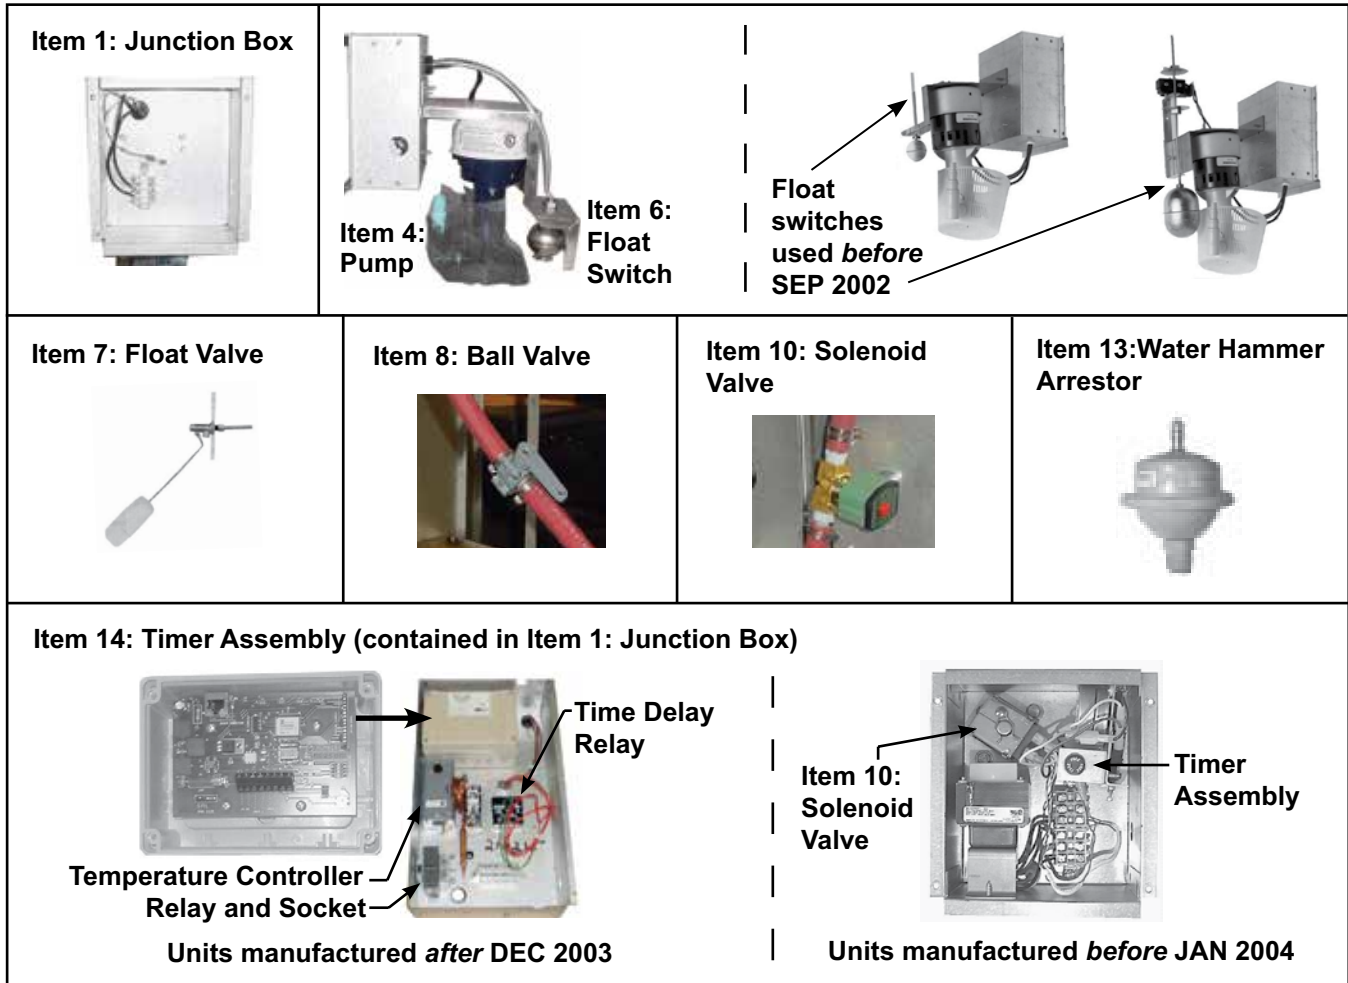

Figure 3. Control Components (Refer to Table 3)
NOTE: Depending on when the evaporative cooling module was manufactured, the junction box/pump/float switch assembly will resemble one of the configurations shown in Figure 3. The float switch used on units manufactured *before* SEP 2002 is replaced using a field-replacement kit (PN 213779).
**Also shown in Figure 3.